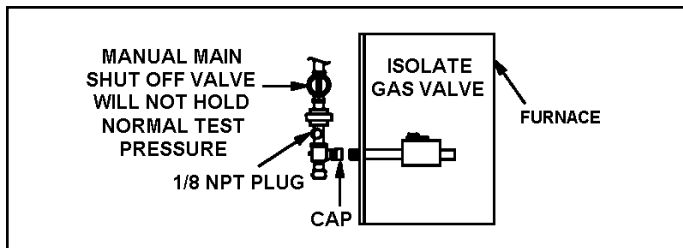

Figure 28.
5. A 1/8" N.P.T. plugged tap or pressure post is located on the gas valve to facilitate test gauge connection. See Figure 28.
When testing pressure of gas lines, gas valve must be disconnected and isolated. See Figure 28. Gas valves can be damaged if subjected to pressures greater than 1/2 psig (3.48 kPa, 14 inches w.c.).